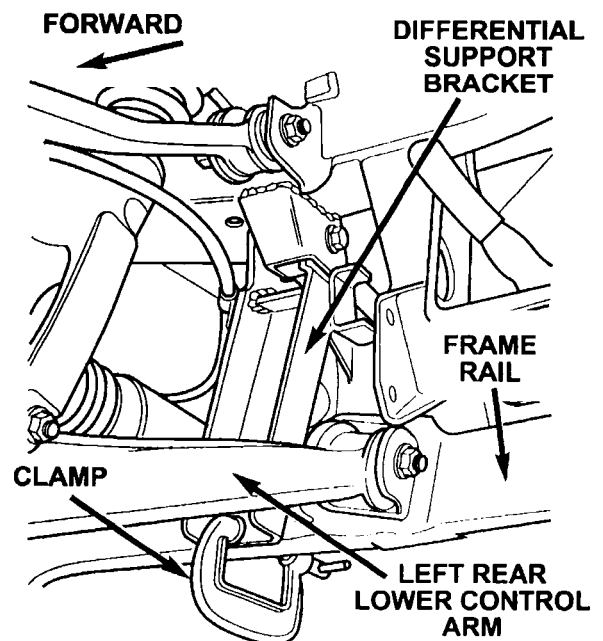

Figure 43
18. Lightly clamp the differential support bracket to the frame rail (Figure 43).